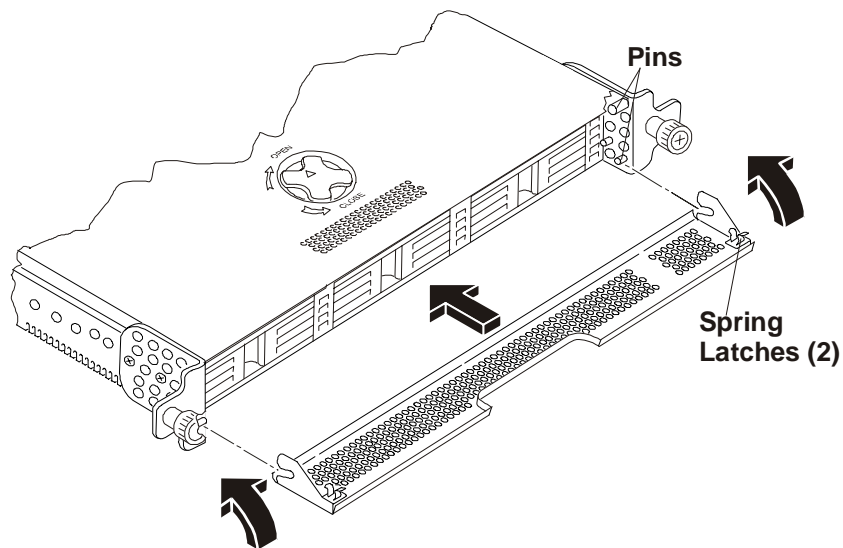

Figure 13-6. Attaching the Bezel to the Netserver
1. Position the Bezel in front of the HP Netserver LP 1000r as shown in Figure 13-6.